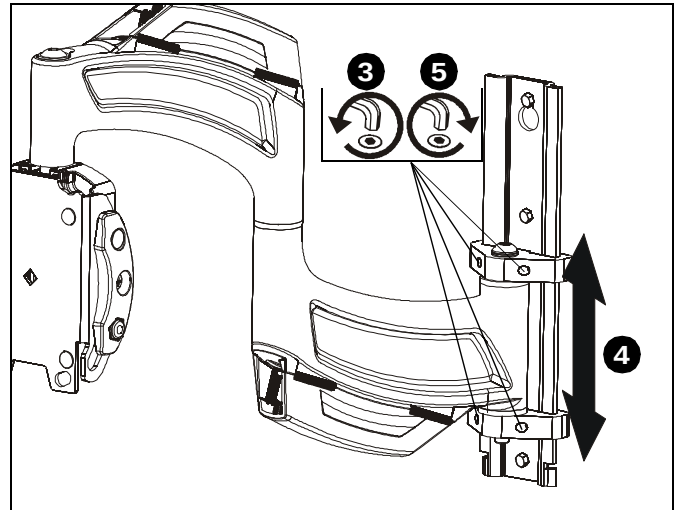

**Figure 15**
3. Route cables on top of upper arm. (See Figure 15)
4. (Optional) Use cable ties (not included) to secure cables to upper arms by threading ties around cable and through cable tie holes on arms. (See Figure 15)
5. Close upper cable management cover. (See Figure 15)
6. Route cables under lower portion of swing arm. (See Figure 15)
7. (Optional) Use cable ties (not included) to secure cables to lower arms by threading ties around cable and through cable tie holes on arms. (See Figure 15)
8. Close lower cable management cover. (See Figure 15)